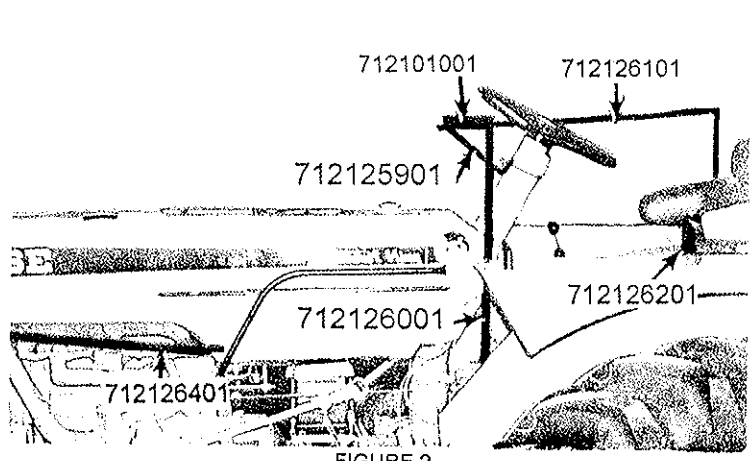

FIGURE 2
2. Bolt #712126401 exhaust guard to left side of tractor using bolts in tractor hood. See Figure 2.
6. Slide #712126001 door post into hem on left side and bolt to yoke using 1/4" x 1" bolt and nut. Bolt bottom of door post to platform using 5/16" x 1" bolt and nut. Drill extra hole in platform being sure clutch pedal clears door post. See Figure 2.